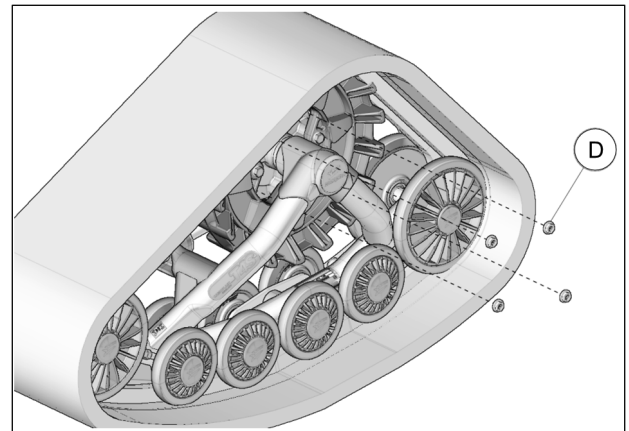

Fig. 9
9. Secure undercarriage to rear hub using the lug nuts (**D**) provided. See Fig. 9
7. Using the lug nuts provided (**D**), secure undercarriages to front wheel hubs. The procedure and precautions are the same as for rear units. Refer to Fig. 9